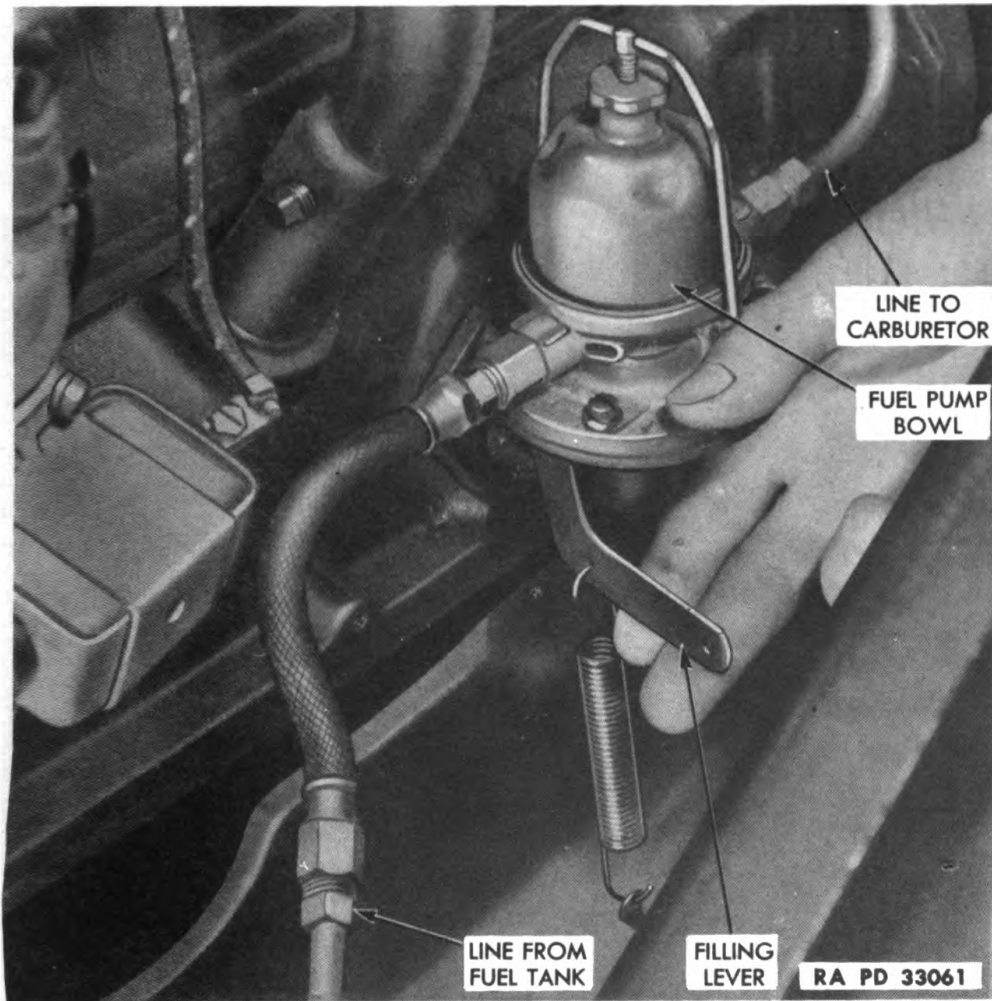

Figure 40—Filling Carburetor Bowl
d. **Installation.** Place a new gasket on the flange of fuel pump, place the pump in position against the engine crankcase, and install the attaching cap screws. Connect the inlet and outlet fuel lines securely, and attach the primer spring. Fill the fuel pump and lines with the primer lever (fig. 40).